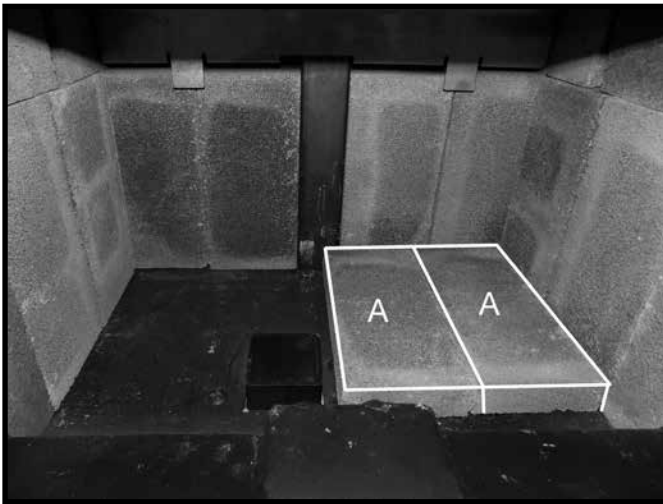

Figure 32: First two floor bricks in place.
- Place two "A" firebricks on the firebox floor as shown in (Figure 32). on page 29
- Place 4 "A" firebricks on the firebox in the same direction as the bricks in (Figure 32) . Push bricks to the back of the firebox.